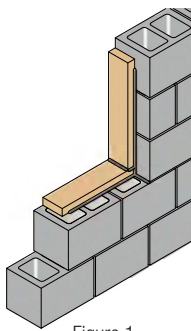

Figure 1
2. Apply a bead of MasterSeal AWB 900 to each corner of the rough opening, between wood bucks and masonry and between wood bucks. (See Figures 1 & 5).